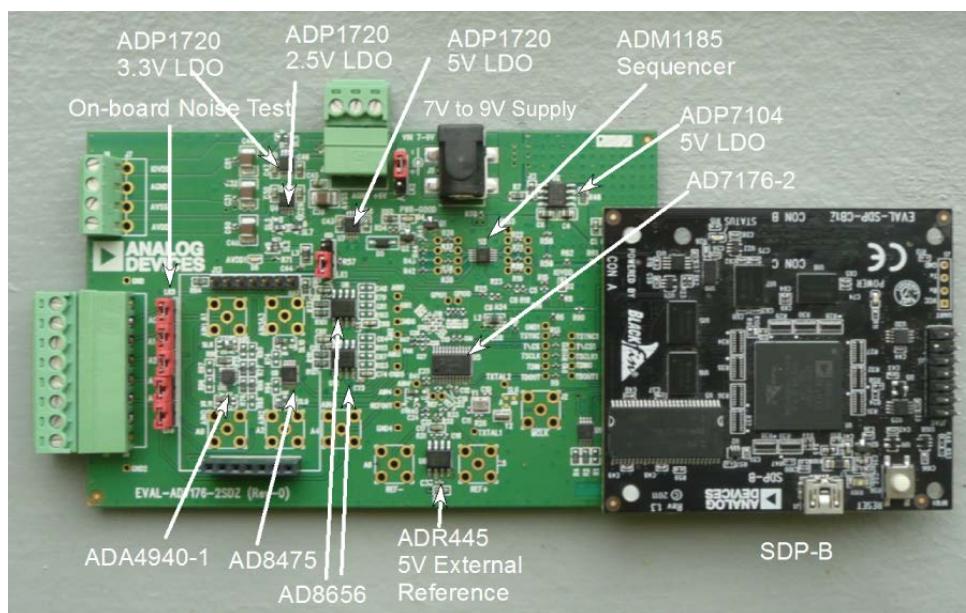

Figure 2. Hardware Configuration—Setting Up the **EVAL-AD7176-2SDZ**
2. Connect the **EVAL-SDP-CB1Z** board to the **EVAL-AD7176-2SDZ** board as shown in Figure 2.
3. Apply an external voltage in the range of 7 V to 9 V to the J4 or J5 connector of the **EVAL-AD7176-2SDZ** board, as shown in Figure 2 (see Table 3 for more information). This provides the power supply for the board.